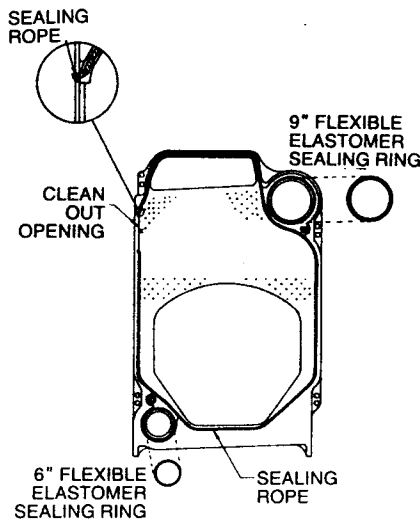

FIGURE 2
3. Position the 1/2" by 149" long sealing rope on the section by starting at the cleanout opening (see FIGURE 2). Be sure the sealing rope is well seated at all points in the sealing grooves so that a gas-tight seal will be maintained between the sections. DO NOT APPLY adhesive to the opposing sealing grooves of the next boiler section.
4. Wipe the port openings with a clean rag to remove any grit from the machined surfaces. Do not use any cleaner that contains a petroleum base distillate (oil) to clean ports. Place the 9" and 6" elastomer sealing rings in the appropriate port openings (see FIGURE 2).